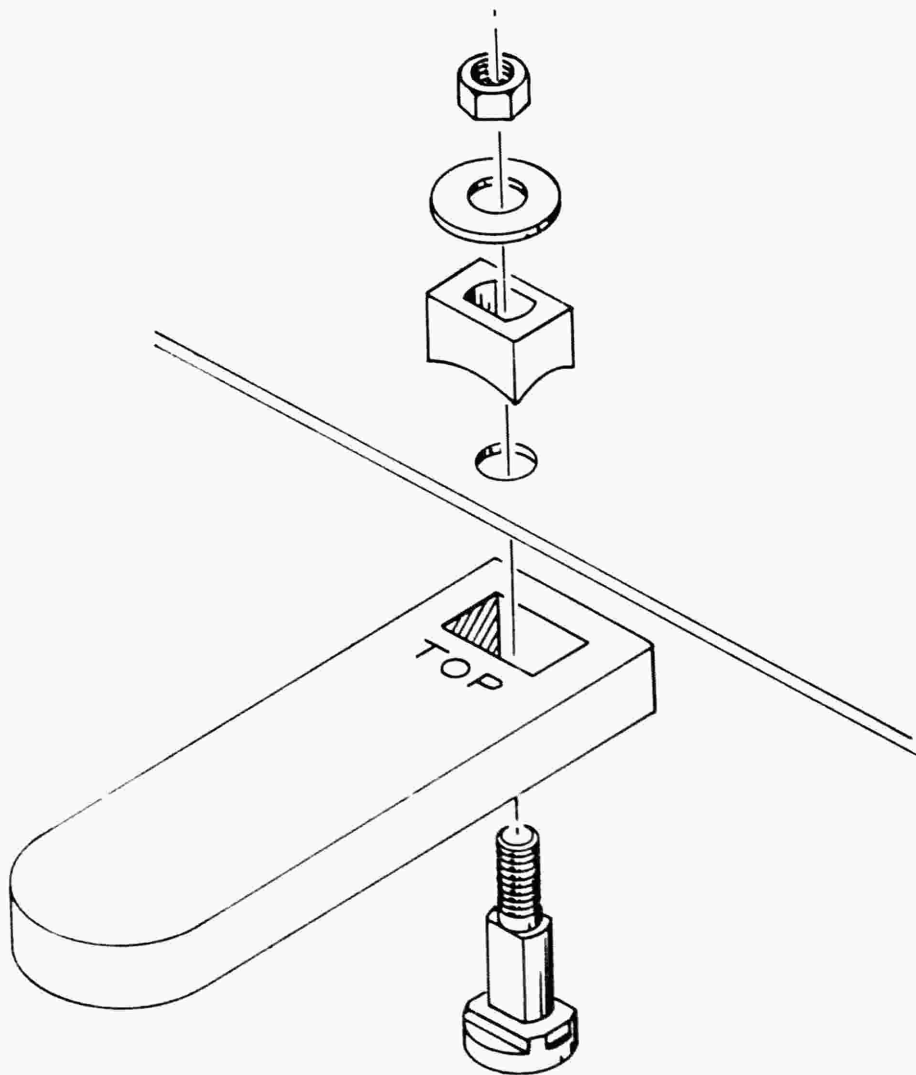

FIG. 1
- c) Using the smaller chassis punch marked 'LID', assemble the punch on the lid as shown in Fig. 1. and punch a rectangular hole, keeping the hole as parallel to the lid edge as possible.